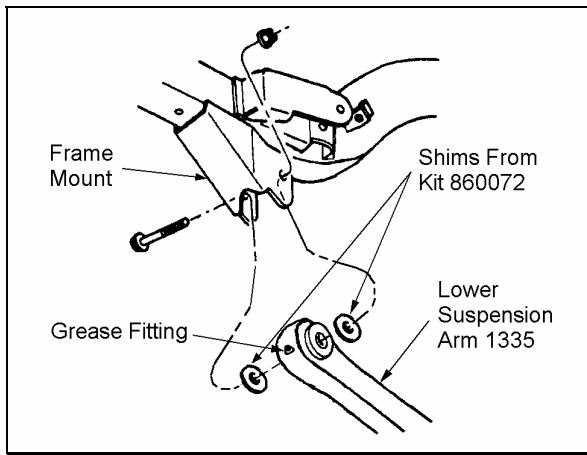

Figure 9
3. ☐ Install a new Rancho lower suspension arm, along with four shims from kit 860070, to the frame and axle brackets. See figure 9. Use original hardware but do not tighten.